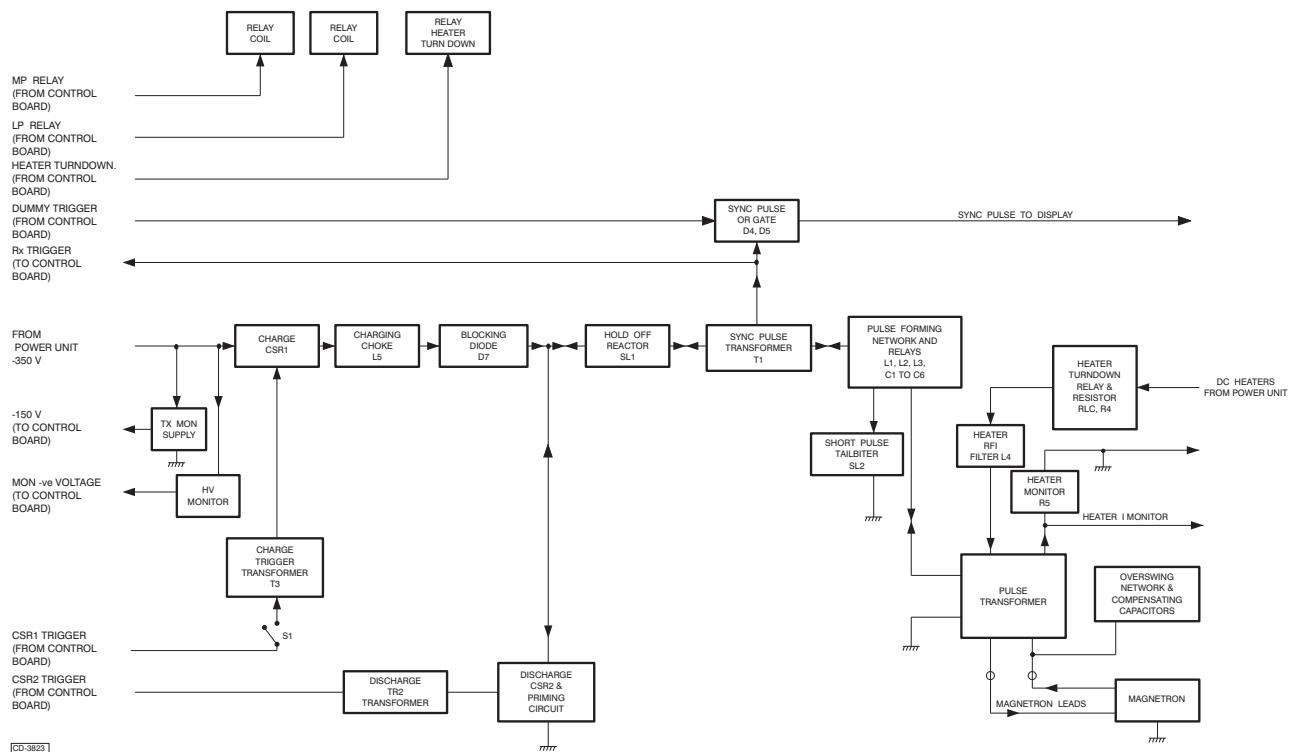

Figure 6c - Modulator Unit (A247/248): Block Diagram
- 14 A block diagram of the Modulator Unit is shown in **Figure 6c**, below.